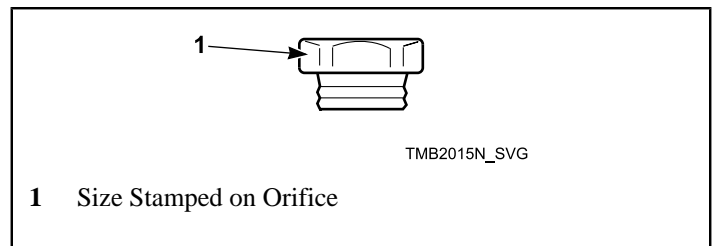

Figure 9 Burner Orifice
3. Install the new, correct burner orifice(s). Refer to *Figure 9 Burner Orifice* and *Table 1*. Torque each to 9 – 10 Nm.
4. Reinstall spud holder assembly to gas valve, making certain burner orifice(s) are in line with burner tube opening. Refer to *Figure 9 Burner Orifice*.